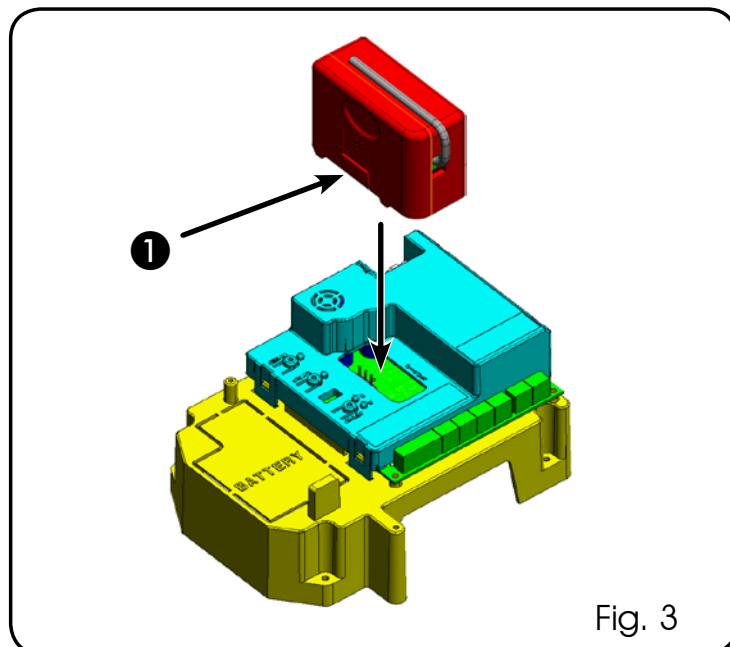

Fig. 3
The control board has an integrated 2-channel decoding system (DS, SLH, LC) named OMNIDEC. This system makes it possible to memory-store both total opening (OPEN A) and partial opening (OPEN B) of the automated system - this is made possible by an additional receiver module (fig.3 ref. ①) and radio controls on the same frequency.